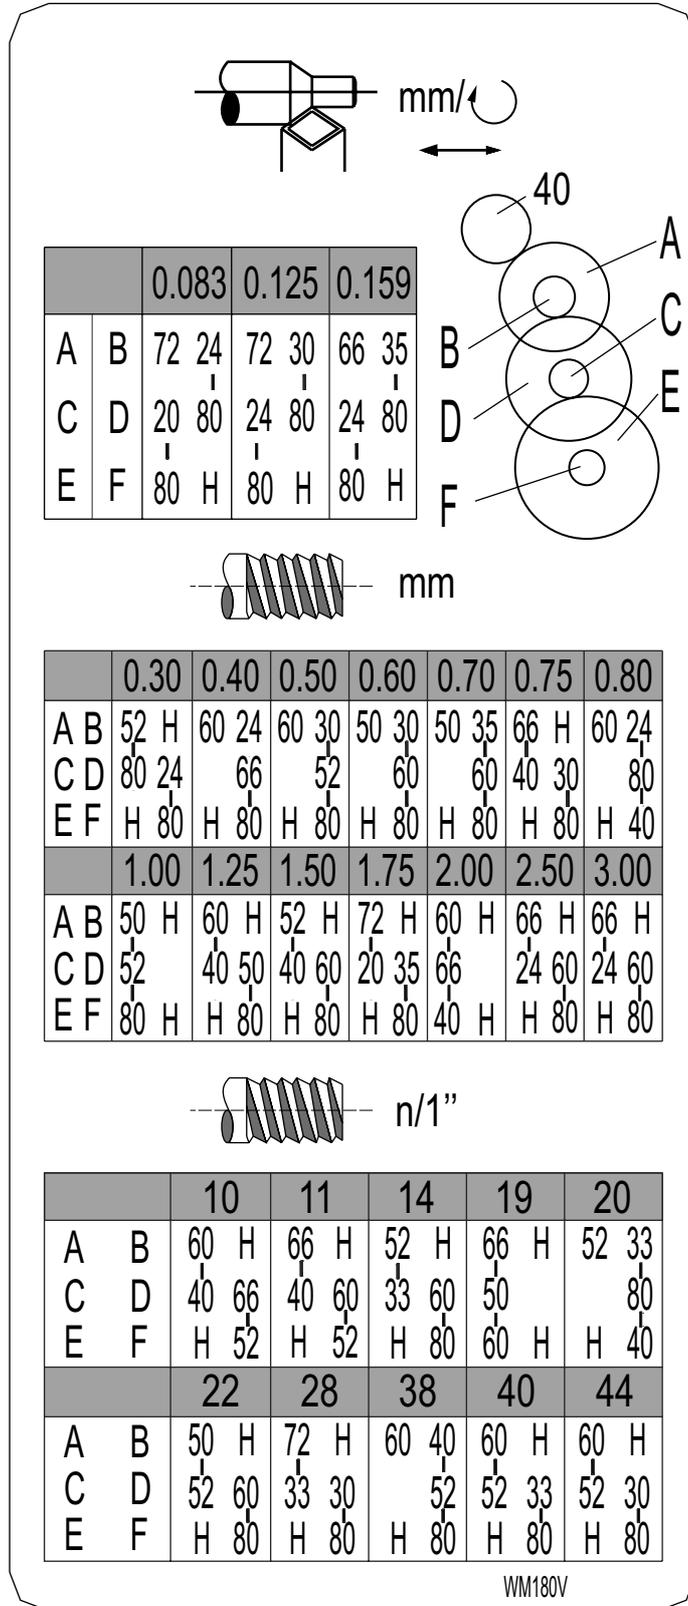

Fig. 20
6. Install the gear couples according to the thread and feed table (Fig.20) and screw the gearwheels onto the quadrant again.
Set the machine up to the desired thread pitch (according to the threading chart, Fig.20). Start the machine and engage the half nut. When the tool reaches the part, it will cut the initial threading pass. When the tool reaches the end of the cut, stop the machine by turning the motor off and at the same time back the tool out of the part so that it clears the thread. Do not disengage the half nut lever. Reverse the motor direction to allow the cutting tool to traverse back to the starting point. Repeat these steps until you have obtained the desired results.